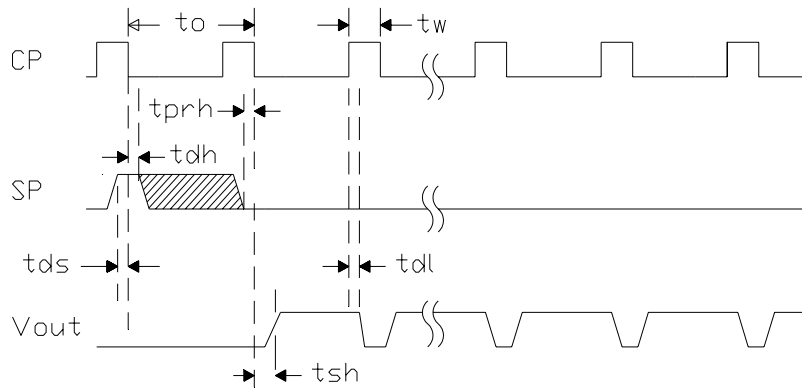

Figure 3: Timing Diagram
Table 6: Timing Symbol Definitions for Figure 3 Timing Diagram
- (1) "Prohibit crossing of start pulse" is to indicate that the start pulse should not be active high between any two consecutive high going clock pulse or two consecutive low going clock pulses (see Figure 3). Only one high going clock under the active high start pulse initiates the internal shift register and it must not be active over two high going clocks. All low going clock pulses will not initiate the shift register. To ensure that the start pulse will not be actively high during two consecutive high going clocks, the circuit should be designed to keep the start pulse active only for one high going clock cycle.